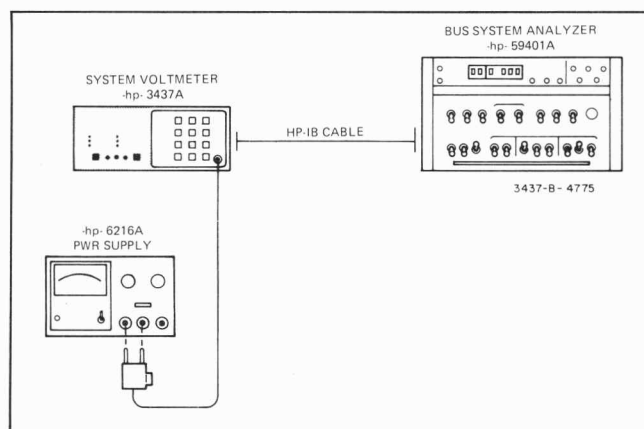

Figure 5-11. Data Format Test Set-Up.
- a. Connect the equipment as illustrated in Figure 5-11.